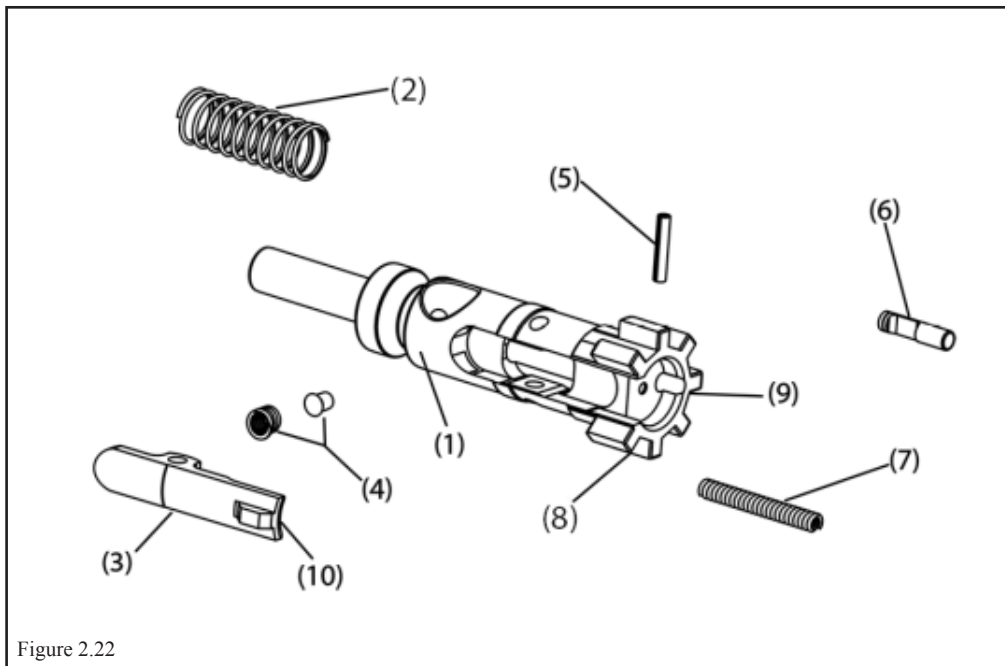

Figure 2.22
1. Push out extractor pin (Fig. 2.22, 5) and remove extractor (3) and extractor spring assembly (4) as a unit.
2. If required, twist extractor spring assembly (4) counterclockwise to remove from extractor (3).
Clean major contact points and lugs (Fig. 2.22: 8, 9) of carbon deposits. Extractor (3) and spring assembly (4) do not need to be removed for routine cleaning and maintenance. Refer to Section III, 2-7 for preventative maintenance checks and services interval instructions.
1. Inspect for cracks or damage, especially around locking lugs (Fig. 2.22:8, 9). Replace any components that are damaged, cracked or have excessive wear.
2. Inspect the extractor (3), extractor spring assembly (4), and extractor pin (5) for cracks, breaks, chips, and other damage. Pay close attention to cartridge extractor lip (10). If damaged, replace.
A small amount of lubrication is recommended on the bearing surfaces (both rear of the bolt and band that contacts the carrier) of the bolt (Fig. 2.22, 1). Over-lubrication is not recommended.
1. If removed, insert large end of extractor spring assembly (Fig. 2.22, 4) into extractor (3) and seat by pushing and turning clockwise.
2. Position extractor (3) and extractor spring assembly (4) on bolt body (1).
3. Compress extractor spring assembly (4) and extractor (3) to align holes.
4. Install extractor pin (5) by hand.
5. Reinstall spring (2) on rear tail portion of the bolt (1).